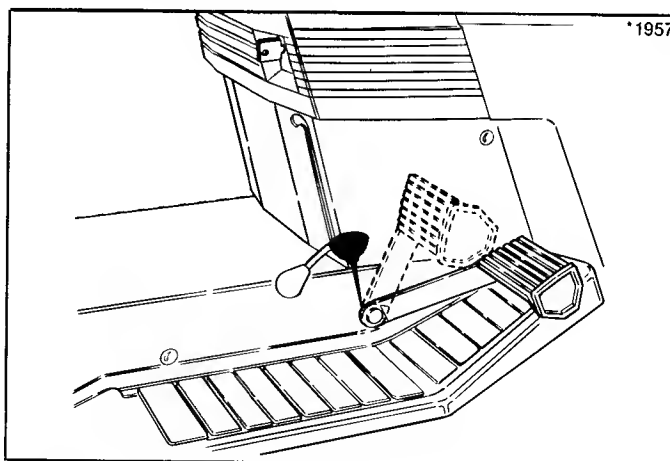

Figure 8. Lubricate Brake Pedal Pivot Point
1. With an oil can, apply a few drops of oil to points indicated with oil can in figures 8 through 13.